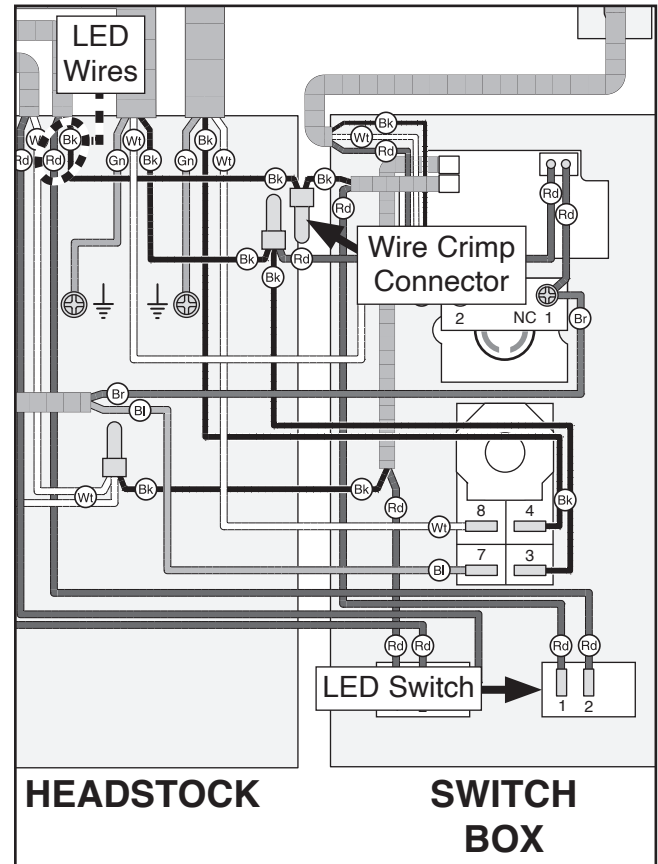

Figure 75. LED wiring.
- Disconnect LED wires from wire crimp connector and LED switch (see **Figure 75**), then tie string to end of LED wires to aid in installation of new LED.